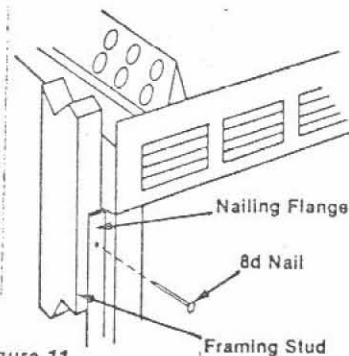

Figure 11
**Step 5:** Secure fireplace to side framing members utilizing appropriate nailing flange using 8d nails (see Figure 11).